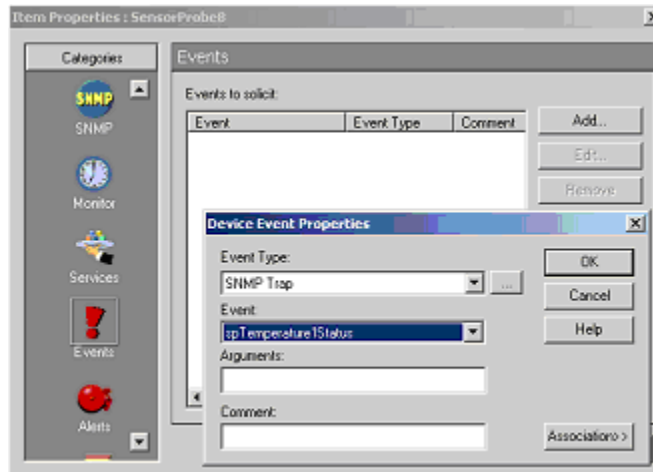

Figure 10 Device Event Properties dialog box
- 3.3. Press the add button located on the right pane. The device event properties dialog box will be displayed (see Figure 10).